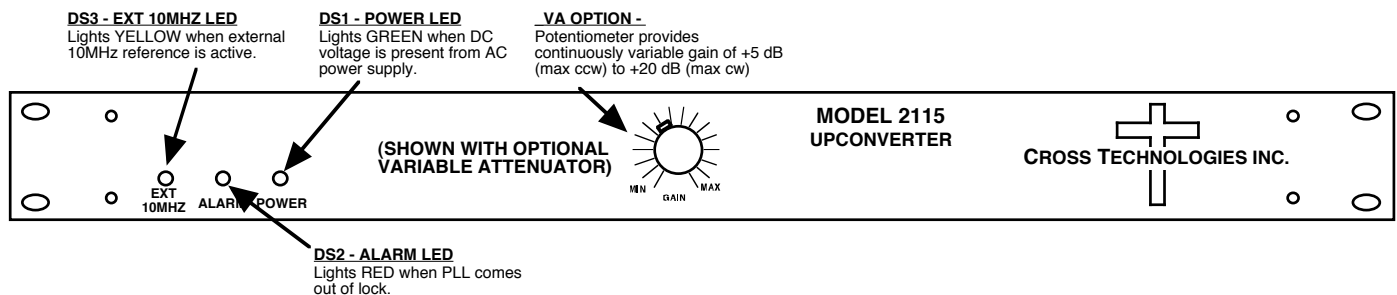

FIGURE 2.2 2115-114 Front Panel Controls and Indicators
4. Be sure DS1 (green, DC Power) is on and DS2 (red, Alarm) is off (Figure 2.2).
7. If EXT is selected or AUTO is selected and there is a 10MHz, +3 dBm signal at J2, check that DS3 (yellow, Ext 10MHz) is on (Figure 2.2).